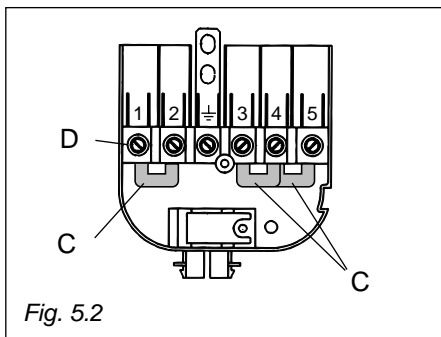
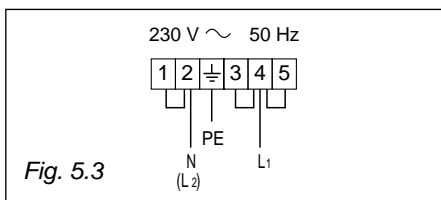

Fig. 5.2
Fig. 5.3
- ✓ Insert connecting plates "C" into terminal block "D" (Fig. 5.2) as shown in the diagram in Fig. 5.3.
- ✓ Insert correct section and type mains flex (see special chapter) through mains hitch "F" of protection "B," and connect mains and earth wires to their respective terminals in block "D," in accordance with the diagram shown in Fig. 5.3.